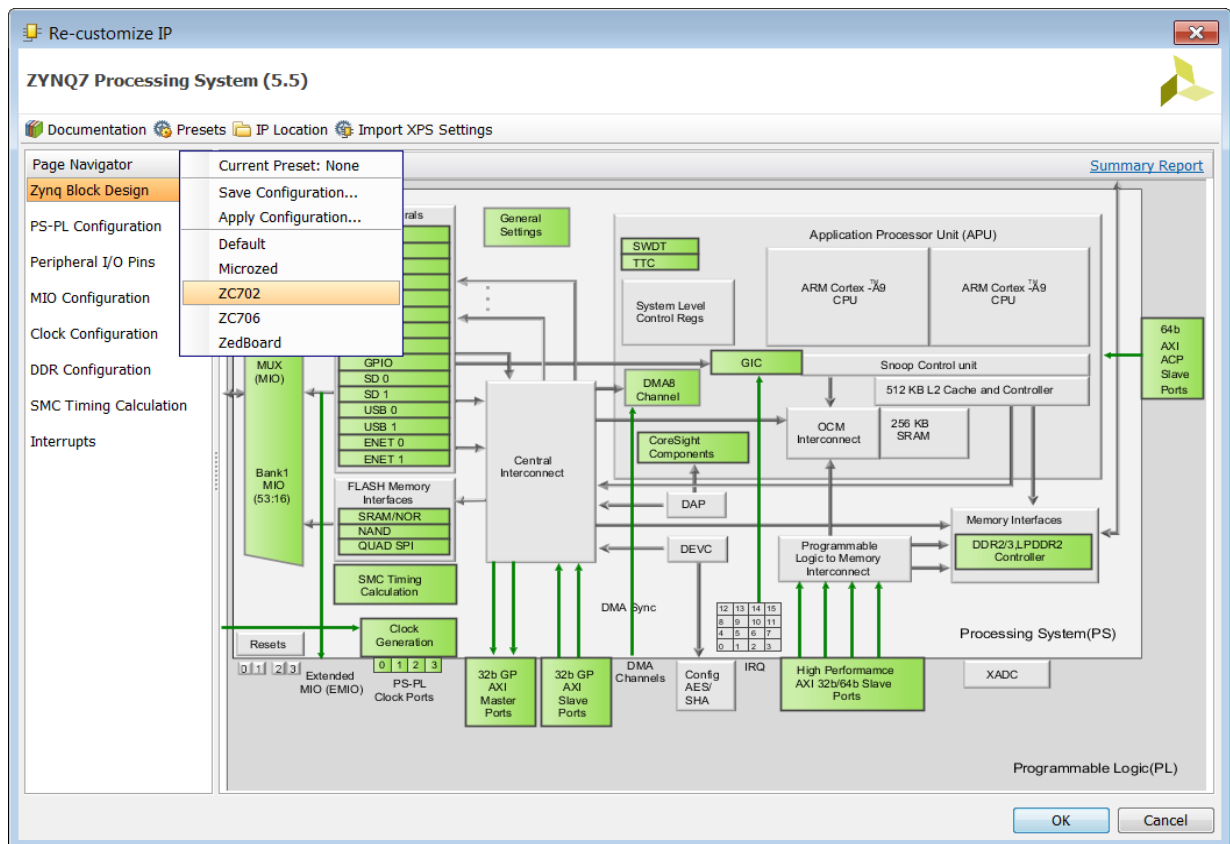

Figure 10-13: Configure the Zynq AP SoC
- a. Click the **Presets** icon and select **ZC702** (Figure 10-13).